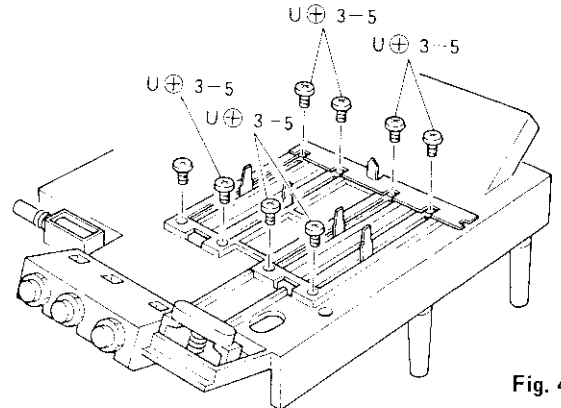

Fig. 4
- 1) Remove 8 screws. (Refer to Fig. 4)